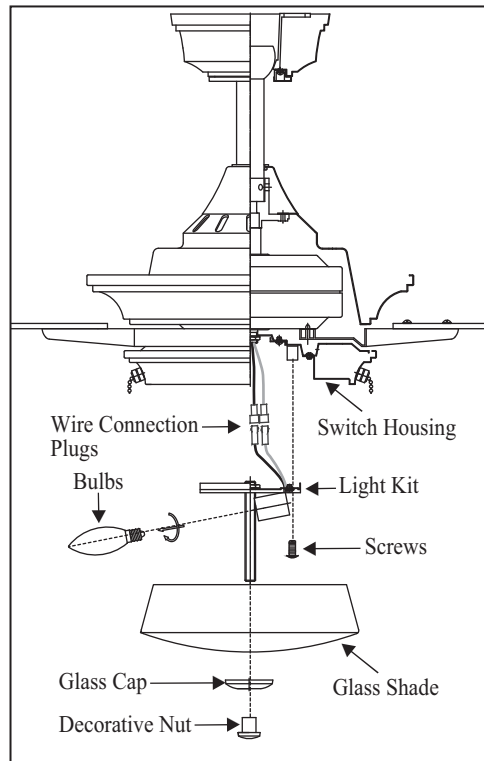

Figure 15
2. Install the light kit onto the switch housing with 3 screws provided. Be sure to tighten all screws. (Fig. 15)
4. Remove the glass cap and decorative nut from the light kit. Place glass shade over the light kit stem, secure with the glass cap and decorative nut. Do not overtighten. (Fig. 15)